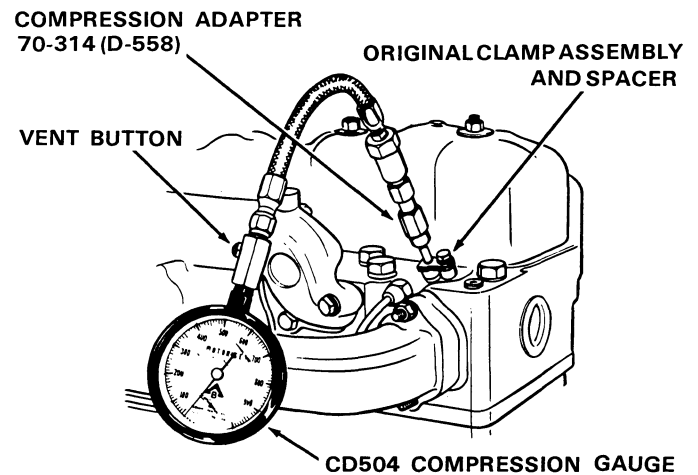

Figure 2
4. Clean the injector bores of loose carbon and residue. Replace the compression seal in the injector bore of the cylinder to be checked and install a Bacharach 70-314 (D-558) Compression Gauge Adapter, Figure 1. Secure with an original injector clamp assembly and spacer. Figure 1, Inset A. Tighten bolt to 20 foot pounds. Connect Case No. CD-504 Compression Gauge to the adapter, Figure 2.
NOTE Take several compression readings on each cylinder. This is done by pressing the vent valve button, Figure 2, to relieve gauge pressure. When the button is released the gauge will again indicate compression pressure.